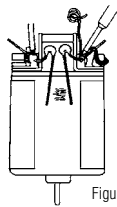

Figure 3
2. Take one of the capacitors and solder one wire to the positive motor tab with the other wire positioned over the scuffed area on the motor housing. (see figure 3).